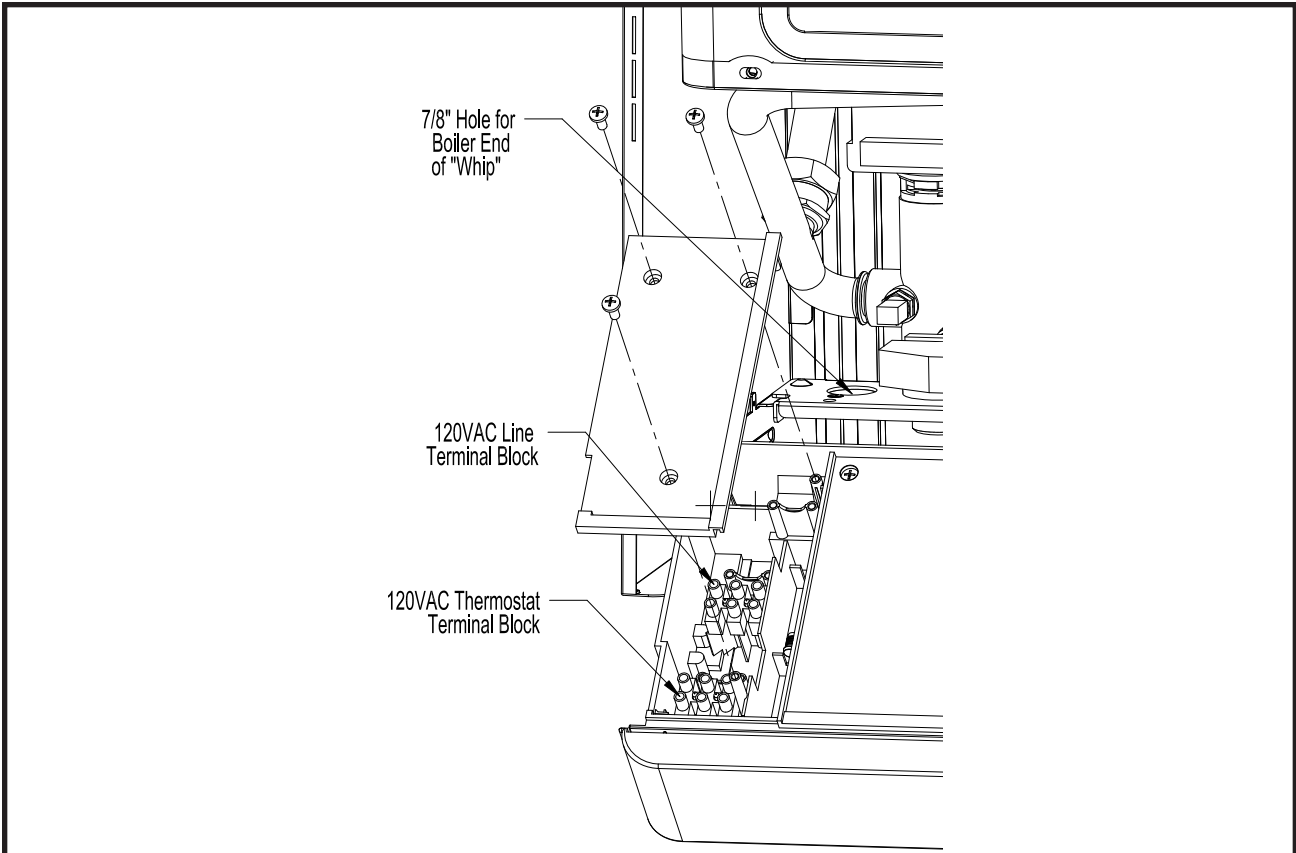

Figure 11.3: Location of Terminal Blocks and 7/8 Hole for Whip
- 2) Crown supplies the “Whip” shown in Figure 11.2 to route the power and thermostat wiring from an installer supplied junction box into the boiler’s control box. This Whip is designed to provide proper strain relief at the boiler and also permits the control box to be easily slid in and out of the boiler with all wiring connections intact. A 7/8 hole is located in the metal rail behind the control box as shown in Figure 11.3. Power and thermostat wiring is routed into the boiler from underneath (Figure 11.5) and the BX connector on the “boiler end” of the Whip is secured in this 7/8” opening.
- 4) Two terminal blocks are located in the electrical connection compartment: one for power connections and one for the thermostat connections. Figure 11.3 shows the location of these terminal blocks in the connection compartment.